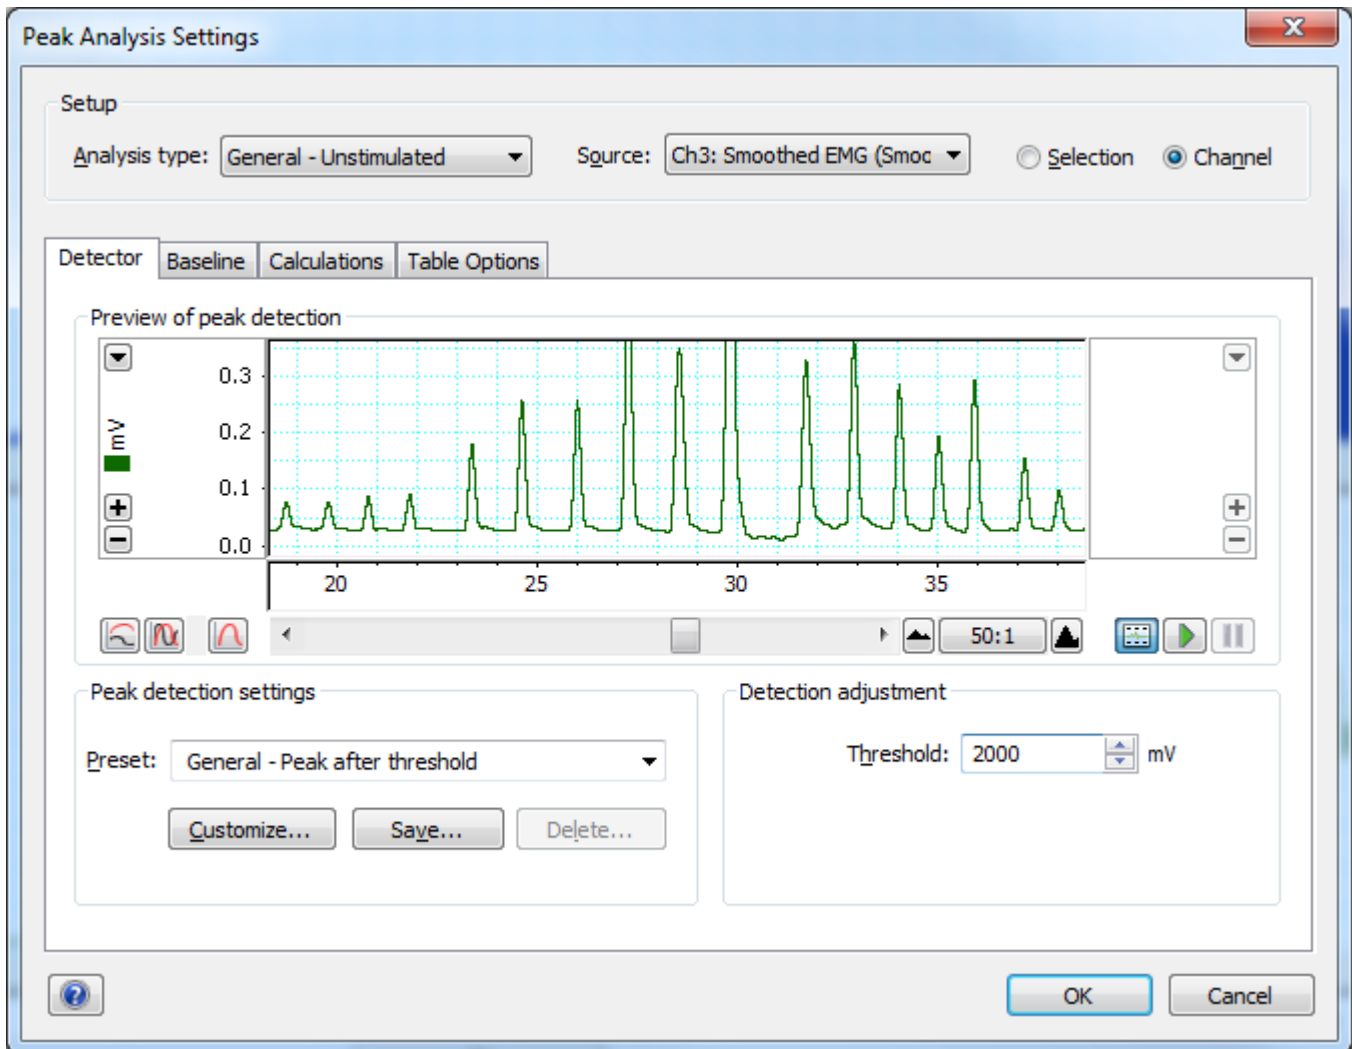

Figure 4: From the top menu, select Peak Analysis->Settings.
5. Optimize the detector by clicking on **'Customize'** from below the preset menu (figure 4). The goal is to reduce the Detection Adjustment threshold as much as possible (but not so low that it picks up peaks in the noise) so that sustained EMG activity can be represented as a single peak event.